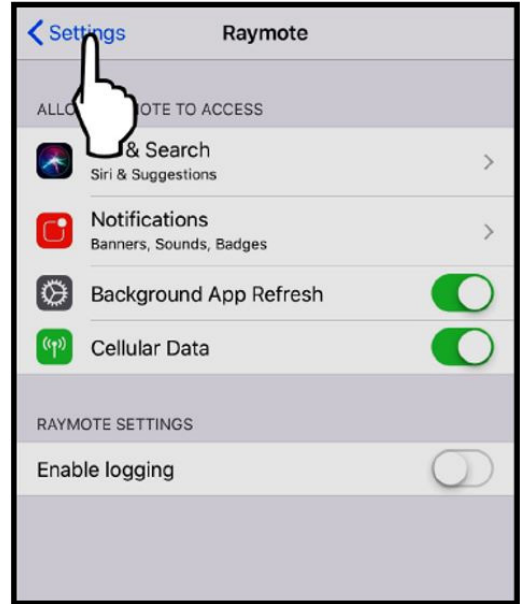

Figure 98. Select "Settings" Menu
- 5. On the top left corner of the screen, press the "Settings" button to go the Settings menu. See Figure 98.